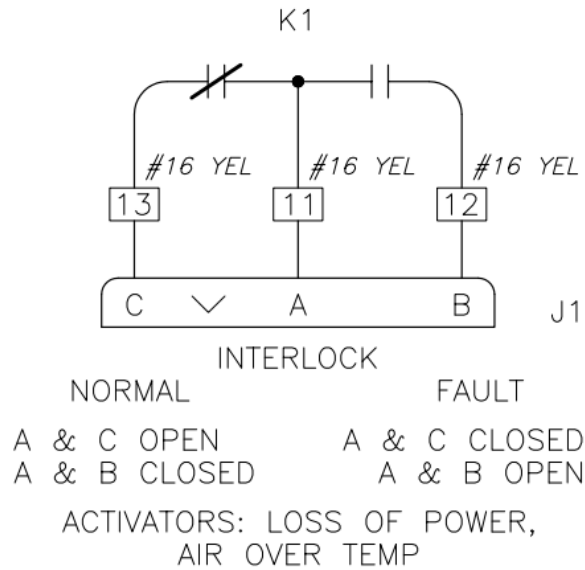

Figure 5. Interlock Relay Schematic
5. Use connector provided to prepare an interlock cable for the associated RF transmitter. See Figure 5 and accompanying text for explanation of interlock circuit operation.
Figure 5 is the schematic of the interlock relay circuit. Under normal operating conditions, relay contacts K1a (NC) open; relay contacts K1b (NO) closed. Thus, a closed path exists between pins A and B, and an open path exists between pins A and C of receptacle P1.